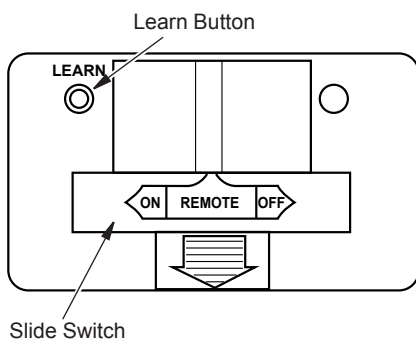

Figure 23 - Receiver
4. Press the ON button on the remote control to light the burner (see Figure 23). You will hear a series of beeps. This will also "learn", or program, the remote and the receiver.